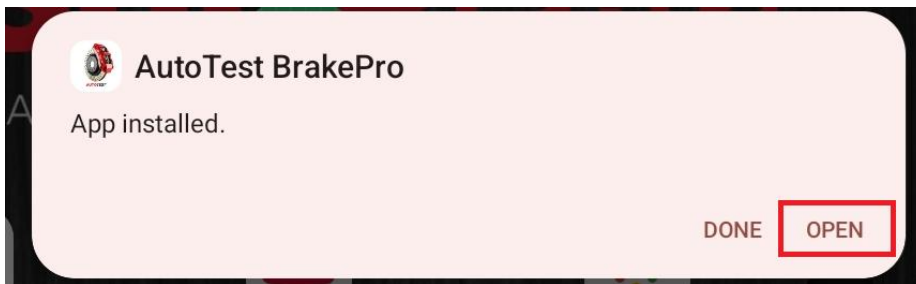

Figure 27
3. Once installation is finished, press Open to reopen the newly updated Brake Pro app (Figure 27).